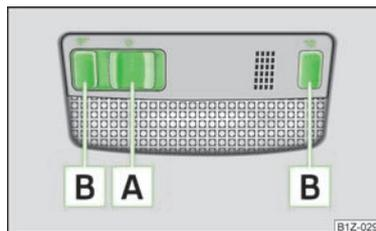

Fig. 29
- Press switch  » Fig. 29 towards the edge of the light, the symbol  appears.